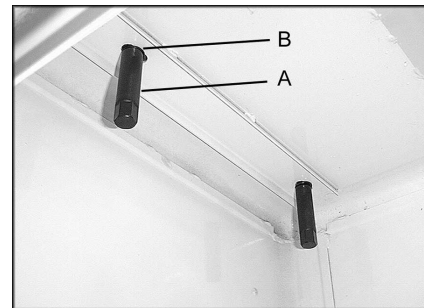

Figure 2
3. Attach bed assembly to stand with two 3/8" lock bolts and lock washers (Figure 2). Hand tighten only at this time.